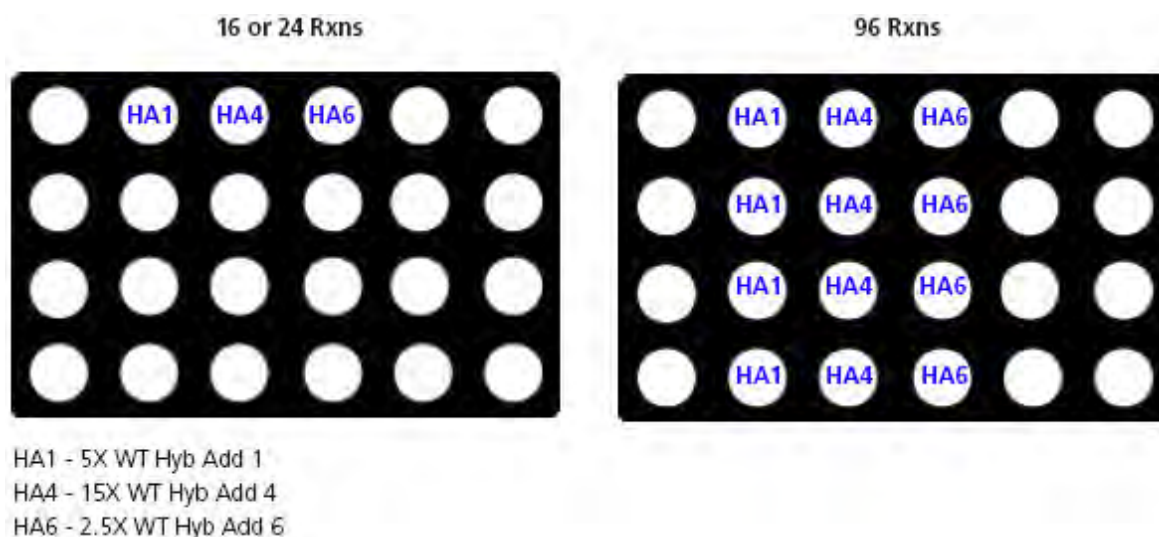

Figure 64 Tube rack setup for array plates.
3. Set up the tube rack as shown in Figure 64, depending on your sample format.